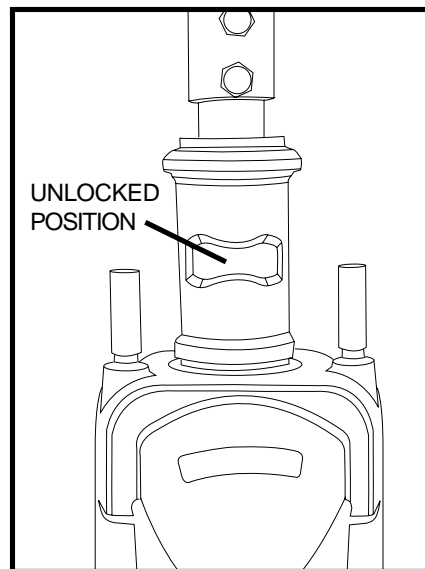

Figure 19A. Tiller Lock Knob (Unlocked)
9. Unlock the front wheel by turning the tiller lock knob 90° counterclockwise. See figure 19A.